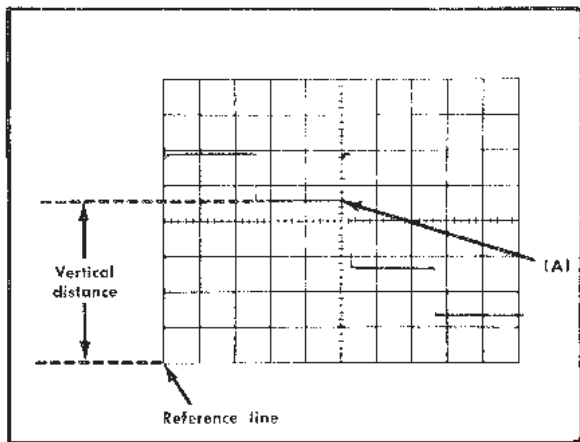

Fig. 1-4. Measuring instantaneous dc voltage with respect to a reference voltage.
4. Measure the distance in divisions between the reference line and the point on the waveform at which the dc level is to be measured. For example, in Fig. 1-4 the measurement is made between the reference line and point A.